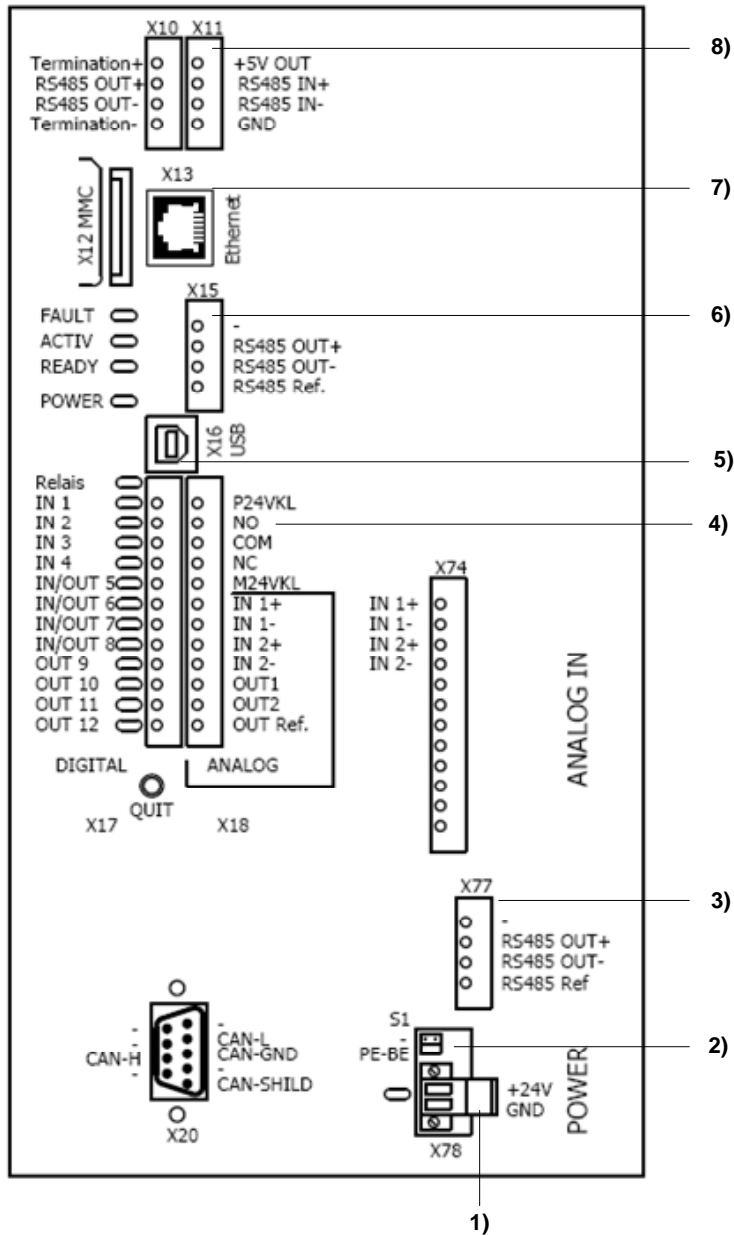

Fig no. 4 Layout of connectors and terminal strips
- The USB service interface (X16) allows service personnel to configure the unit on site (see Fig no. 4).